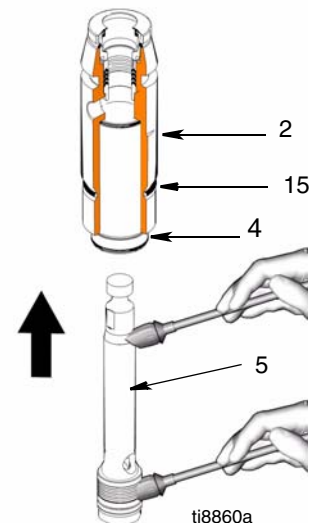

FIG. 15
13. (Fig. 15) Grease top inch or two of piston rod (5) that goes through the sleeve/cylinder assembly throat packings. Grease piston packings at bottom of piston pump.